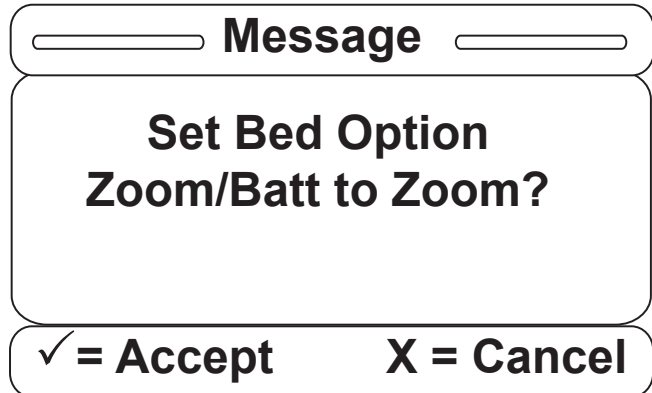

Figure S-7
7. Once you have selected one of the items, a confirmation screen such as that in Figure S-7 will be displayed. The confirmation screen text will vary based on the item you have selected. The confirmation screen displayed in Figure S-7 indicates that the user chose Zoom®. Hit “Enter” on the footboard panel to confirm the Zoom®/Batt. option; hit “Exit” to cancel the operation.